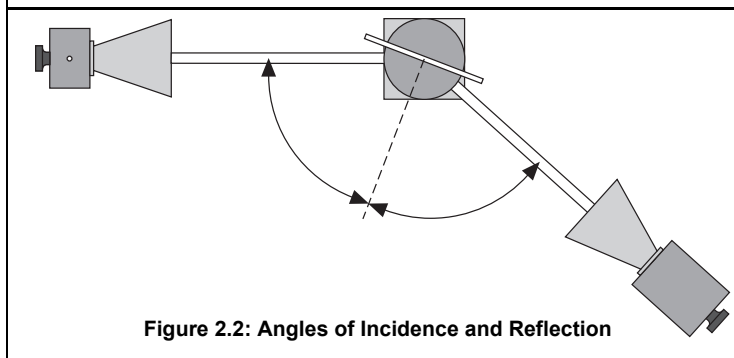

Figure 2.2: Angles of Incidence and Reflection
3. The angle between the incident wave from the Transmitter and a line normal to the plane of the Reflector is called the Angle of Incidence (see Figure 2.2). Adjust the Rotating Component Holder so that the Angle of Incidence equals 45° .